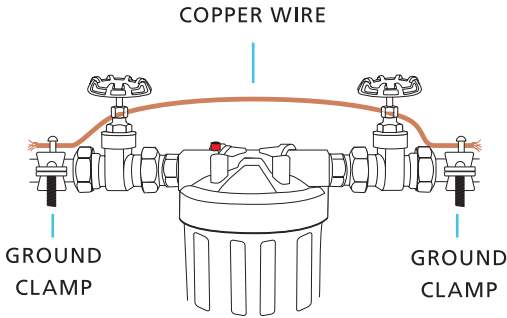

FIGURE 3
- 5** When installing on metallic plumbing, ensure you take the following precautions: Securely install two (2) grounding clamps and a #4 copper wire across the location where the system will be installed. Tightly clamp at both ends, as shown below. (See Figure 3)